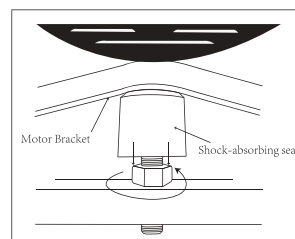

Figure 1
**IMPORTANT:** Before operating the generator the shock-absorbing seat (cushion) must be adjusted for proper clearance (figure 1). Loosen the lock nut and adjust the shock-absorbing seat so there is a 3mm gap between the top of the seat and the bottom of the motor bracket (figure 2). Re-tighten the lock nut.